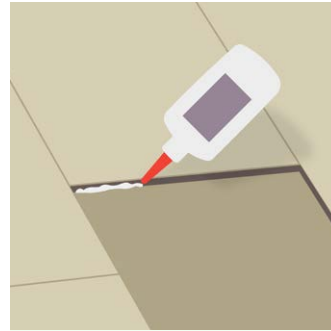

Fig. 15
5. A cyanoacrylate adhesive can be applied to the tongue and groove sections (fig. 15) exposed from the removed damaged tile (acrylic double faced tape can also be used, sliding under the existing tiles sticky side up).